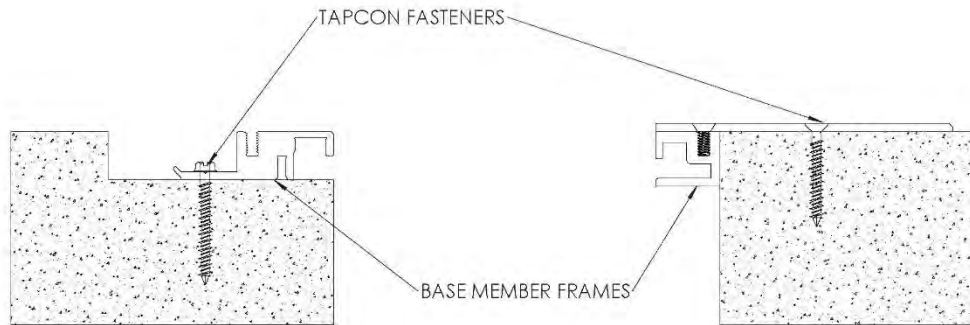

FIGURE 2
2. Position appropriate base member frame in blockout and position other base member frame on the non-blockout side per shop drawings. Using the frames as a template, mark and drill 3/16" holes for Tapcon fasteners. Install base member frames to the blockout opening and non-blockout side with fasteners, making sure not to over tighten. *Note: In the 2" size the base frame on the non-blockout side is shaped differently than what is shown in Figure 2, see shop drawing for clarification. See Figure 2*
2. Position base member frame in blockout per shop drawings. Using the frame as a template, mark and drill 3/16" holes for Tapcon fasteners. Install base member frame to the blockout opening with fasteners, making sure not to over tighten. **See Figure 2**